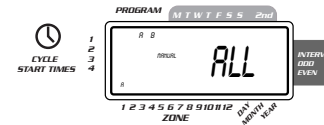

FIGURE 10: Semi-Automatic Watering for Stations Assigned to A and B Programs
- Turn the rotary dial to **AUTO**, then press the **MANUAL** key. The display will show "AB", "MANUAL", and "ALL" will be blinking [See Figure 10]. This indicates all stations will semi-automatically water for their assigned durations in sequence.